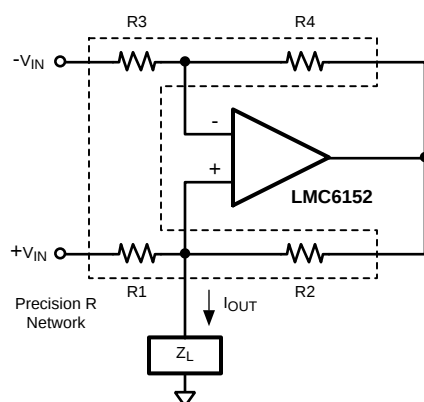

Figure 10. Basic Howland Current Pump with Precision Resistor Network
4. Buy matched sets of tightly-matched resistors. These can be purchased in sets of 4 for a couple dollars, in an SOIC package, such as four 10k resistors matched to 0.1% or even to 0.01% of ratio. See Figure 10. Resistors such as Caddock T914's (in SIP packages) can be found at: http://www.caddock.com/Online_catalog/Mrktg_Lit/TypeT912_T914.pdf These are available with matching down to 0.01%. Resistors such as Vishay Beyschlag ACAS 0612's are at www.vishay.com The catalog lists these as good as 0.1% matching, in Surface Mount packages. Bourns has thin-film networks in DIPs (4100T Series) and in surface mount packages (4400T Series) at: <http://www.bourns.com>. Their tolerance is better than 0.1% but the matching specs are not listed.